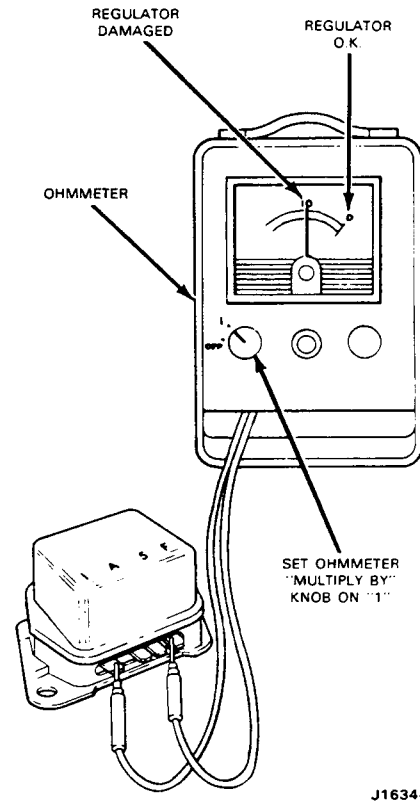

FIG. 12 Regulator Burned — Open Connector Wire Test
- A check for the regulator burned-open wire is made by connecting an ohmmeter from the I to F terminals of the regulator (Figure 12). The reading should indicate 0 (no resistance). If the reading indicates approximately 10 ohms, the connector wire inside the regulator is open. **The field circuit grounded condition must be found and repaired before installing a new regulator.**